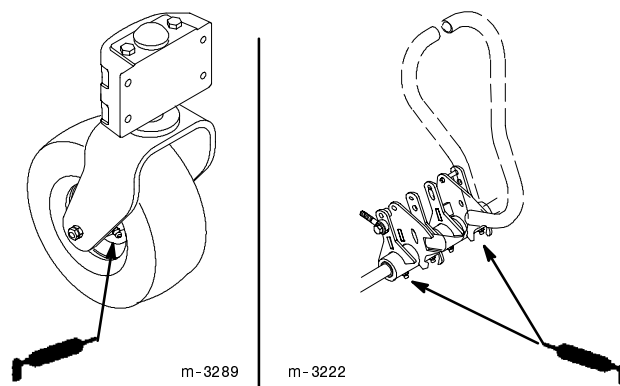

Figure 65
1. Lubricate the castor wheel bearings and motion control lever pivots until grease begins to ooze out of the bearings (Fig. 65).